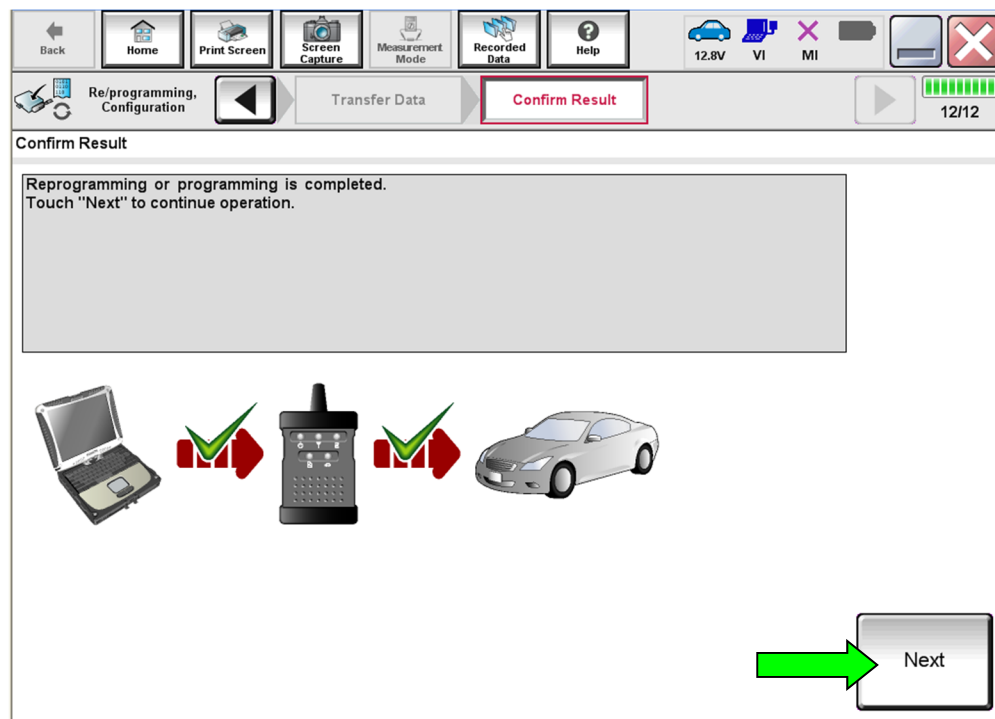

Figure 29
47. When the screen in Figure 29 displays, reprogramming is complete.
- HINT:** If the screen in Figure 29 does not display (indicating that reprogramming did not complete), refer to ICC/ADAS Control Unit Recovery on the next page.